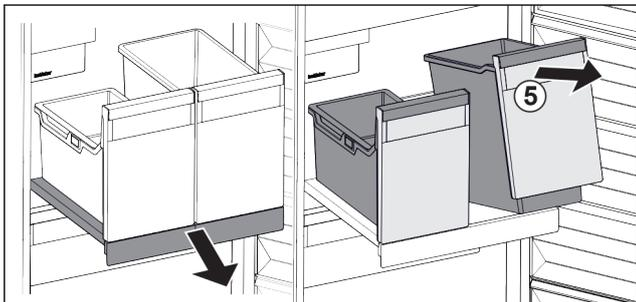

Fig. 41
- ▶ Lift the container Fig. 41 (5) at the front.